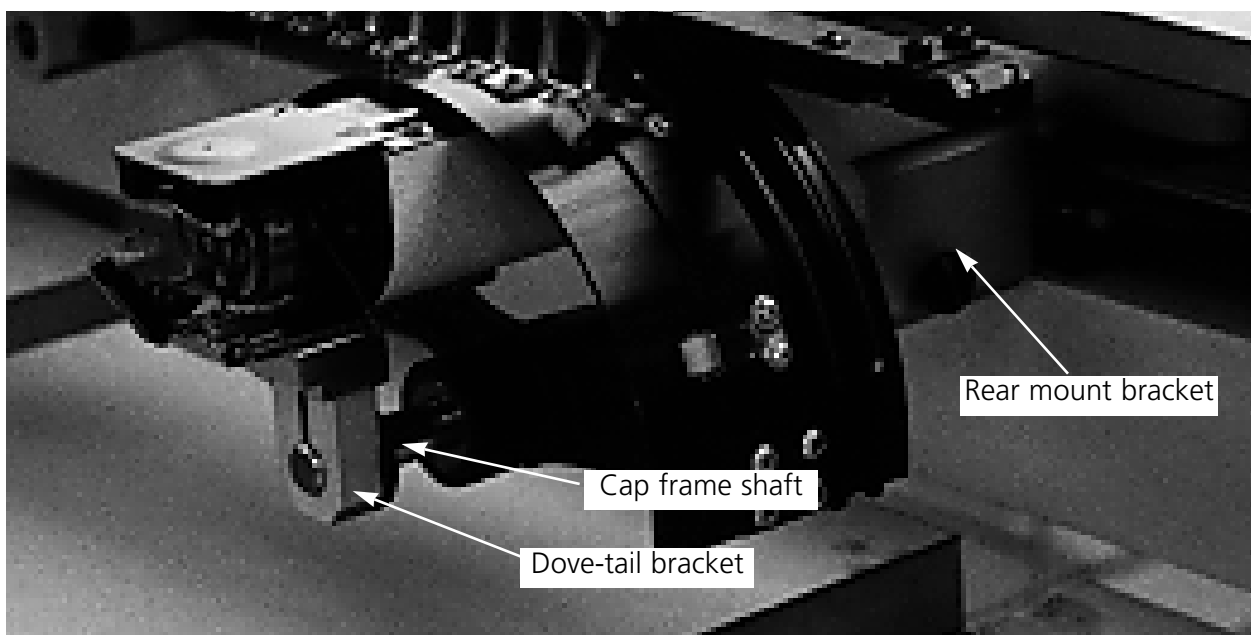

Figure 3-11
7. Push the cap frame shaft into the bracket hole as far as it will go. Refer to Figure 3-11.